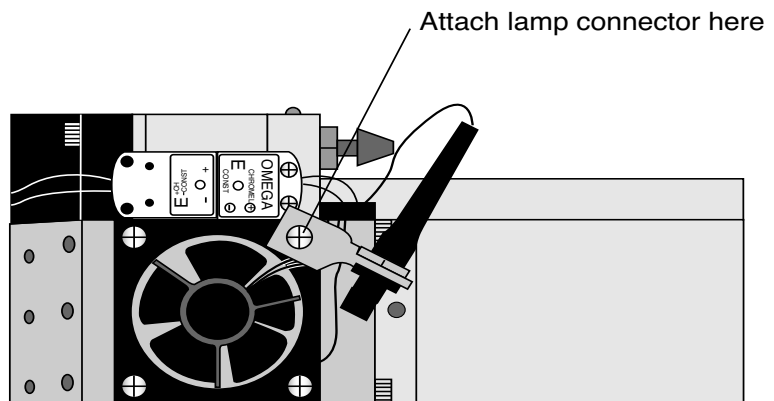

Figure 28-11. Attach the lamp connector to the fan shroud.
b) Remove one fan shroud screw and attach the lamp connector (Figure 28-11).